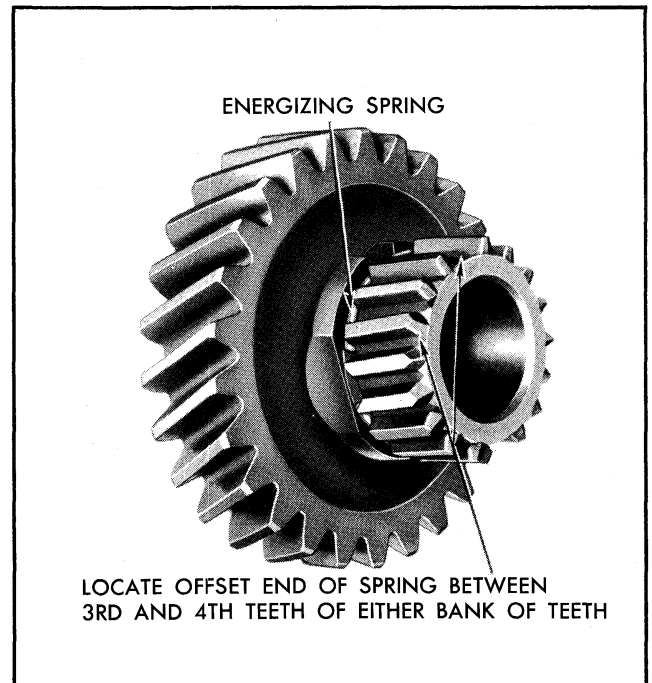

Fig. 7-27 Position of Synchronizer Ring Energizing Spring
1. One end of each spring is slightly offset. Each spring must be assembled in its groove in main drive (clutch) gear and second speed gear with offset, or locking end, between third and fourth tooth from either end of either of two banks of teeth on these gears. This prevents the spring from turning in its groove (Fig. 7-27).